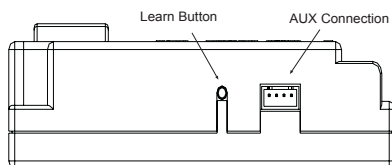

Figure 34 - Gas Module Left Side
5. Turn equipment shutoff valve clockwise  to the OFF position (see Figure 34, page 23). Do not force.
6. Wait five (5) minutes to clear out any gas. Then smell for gas, including near the floor. If you smell gas, STOP! Follow "B" in the safety information on page 22. If you don't smell gas, go to the next step.
1. There is a switch located on the right side of the module that reads REMOTE/OFF (Figure 34, page 24).
- To program the module (make sure the system has power), locate the learn button (Figure 34) on the module. Press and release the learn button. There will be a beep sound from the module. Then press any button on the remote transmitter. Once the module's internal receiver accepts the transmitter code, there will be a series of confirming beeps.